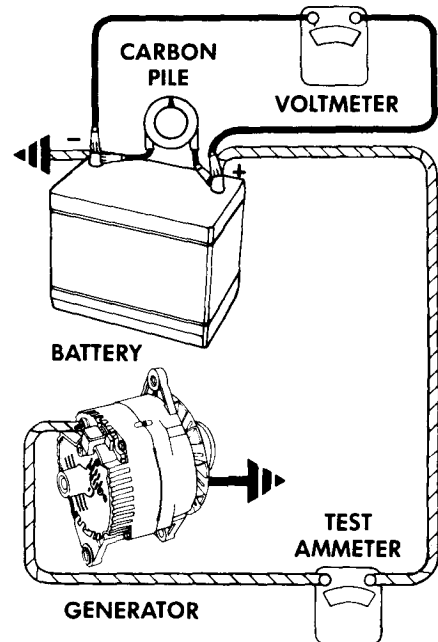

Figure 17—Connections for bench check of generator.
1. Make connections as shown in Figure 17 except leave the carbon pile disconnected. **IMPORTANT**—Ground polarity of battery and generator must be the same. The battery must be fully charged.